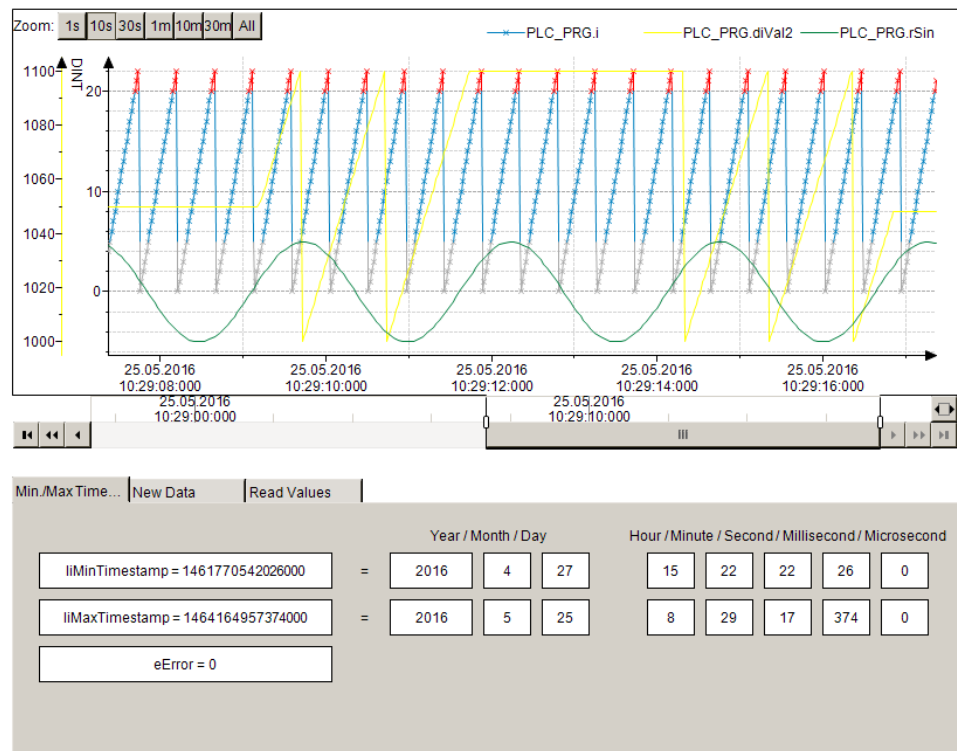

Figure 1: Tab "Min/Max Time"
- The minimum and maximum time stamps of the trend data are displayed in the "Min/Max Time" tab (see Figure 1).